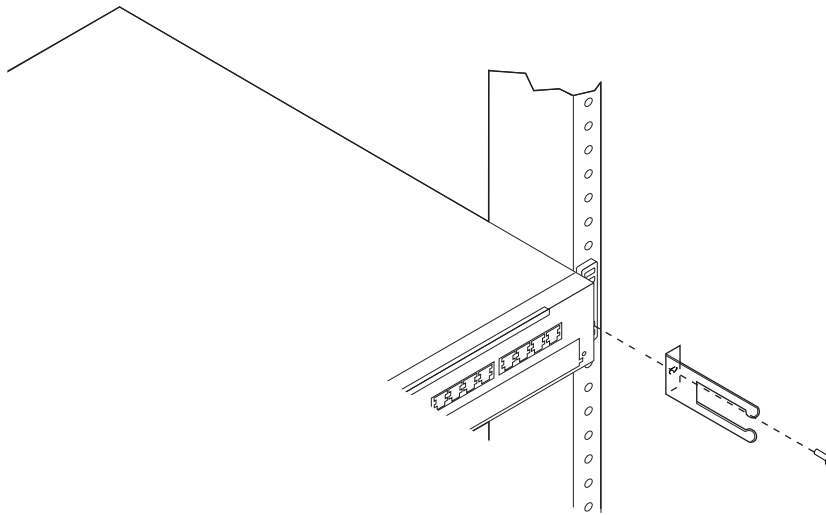

Figure 2-2. Attaching the Cable Management Bracket
6. On the right side, align the lower screw holes in the mounting bracket and the cable management bracket with the correct hole of the rack; then start the screw as shown in Figure 2-2 on page 2-4.